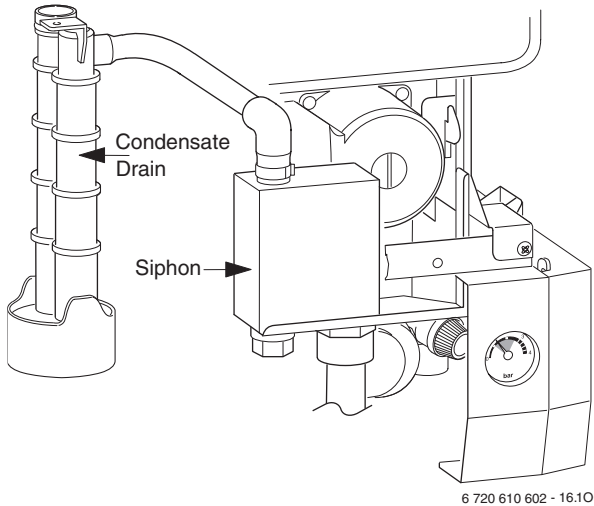

Fig. 54
- Unscrew and remove the siphon by releasing the jubilee clip. Refer to fig. 54.